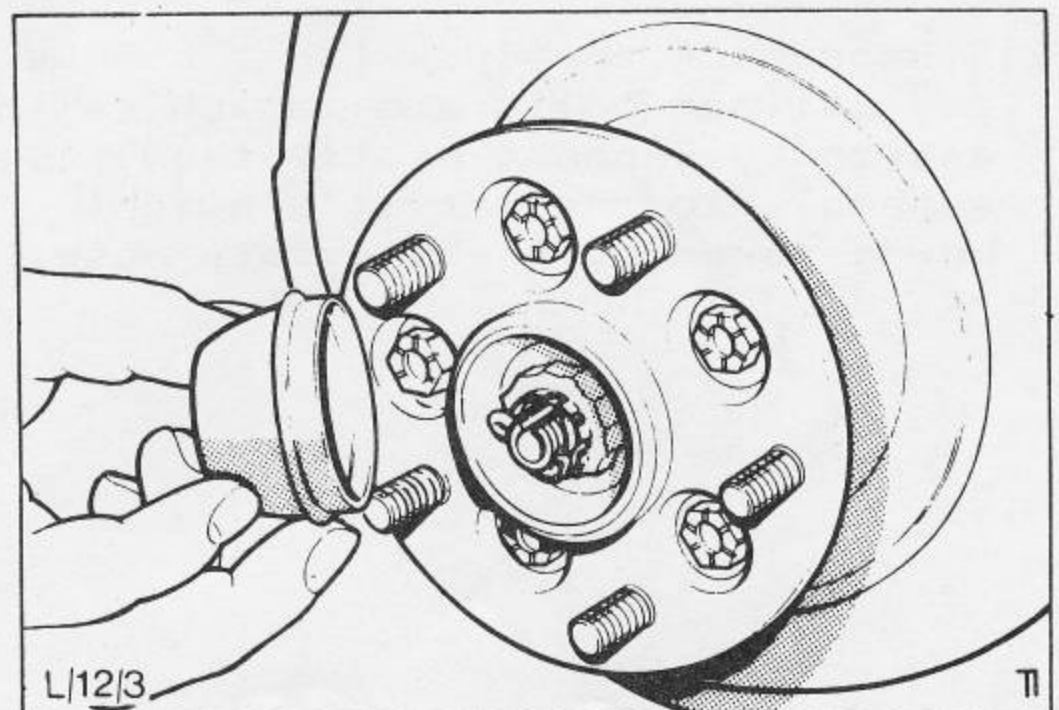

Fig. 18 Replacing wheel bearing dust cap.
7. Tighten adjuster nut to a torque of 3.7 Kgm (27 Ft. Lbs) whilst rotating the hub in an anticlockwise direction. Slacken the nut back until an end float of 0.001 to 0.003 inch is obtained. Position adjusting nut retainer so as to align a slot in the retainer with hole in spindle and fit new split pin. Refit centre and dust cap. Fig.18